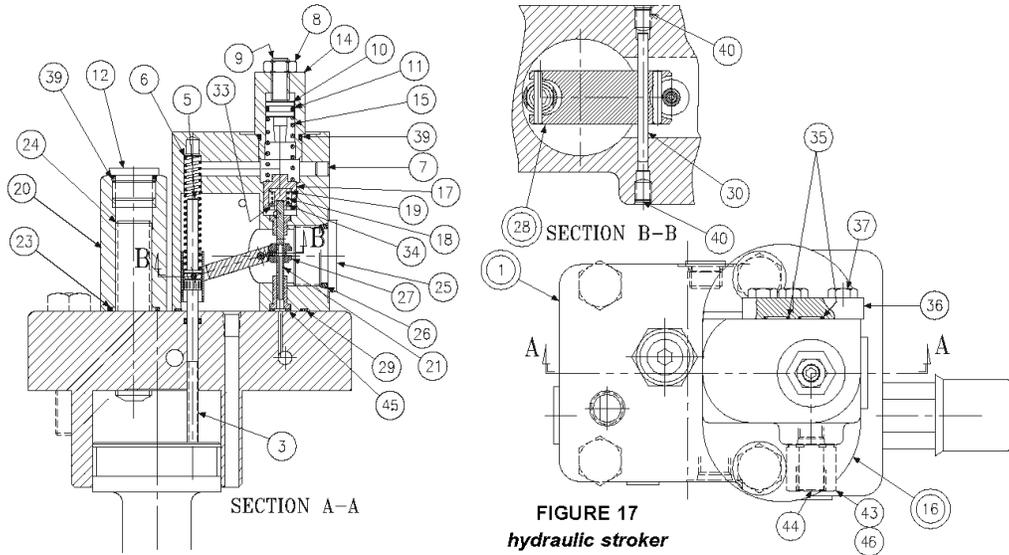

FIGURE 17
PARTS LIST FOR FIG. 17
1. See figure 17. Remove 2 screws holding body (16) to cap assembly (1).
2. Remove all parts from body (16) except pin (30) and arm assembly (28). It is not necessary to remove these parts unless broken or worn. Examine parts for wear or damage.
3. Remove screw (3). Examine head for excessive wear, and body for smooth sealing surface with O-ring.
2. Install spool (6) into bore as shown. Install spring (11) over end of spool.
3. Install O-ring (8) on spring retainer (7). Install retainer (7), screw (13), and nut (14) in plug (4).
4. Install O-rings (10) and (15) on plug (4). Install plugs (4) and (12) in body (1). Install .047", 1.19 mm orifice (19), and .071", 1.98 mm orifice (20) and plugs (2) and (17). Torque plugs. Install O-ring (21) in cap.
5. Turn screw (13) in until spring retainer (7) contacts spring (11). Turn an additional 1-1/2 turns and lock in position.
8. See figure 17. Apply thread locking compound on threads of screw (3), lubricate the shank, thread through the cap into the control piston, and torque to 5 lb.*ft., 6.78 Nm.
9. Install minimum stop screw (24) and turn clockwise to stroke pump to full volume. Measure height from control cap to top of screw (3). With control piston at full displacement, dimension must be .74 +/- .03 in., 18.8 +/- 0.76 mm. Back out minimum stop screw (24) till there is no contact with control piston.
10. Press dowel (30) into body (16), through the link (28), to 1/4", 6.35 mm below surface. Apply hydraulic sealant to threads of screws (40) and install over dowel (30).
11. Press spool (21) into retainer (19). Caution: do not use excessive force. Place spool/retainer assembly into spool (17) with spring (18) and washer (34). Secure with retaining ring (33).
12. While sleeve (27) is engaged into dowel on link (28), slide above spool assembly into bore of body (16), and through sleeve (27). Spool (21) must move freely and easily at all positions of the link (28).
13. Assemble all other components into body (16) per above drawing. Torque plug (12).
14. While spring retainer is engaging clevis pin (5) under dowel of link (28), slide the other opening of spring retainer over the top of the screw (3). Attach body assembly (16) to cap (1) with two screws and torque to 75 lb.-ft., 102 Nm.